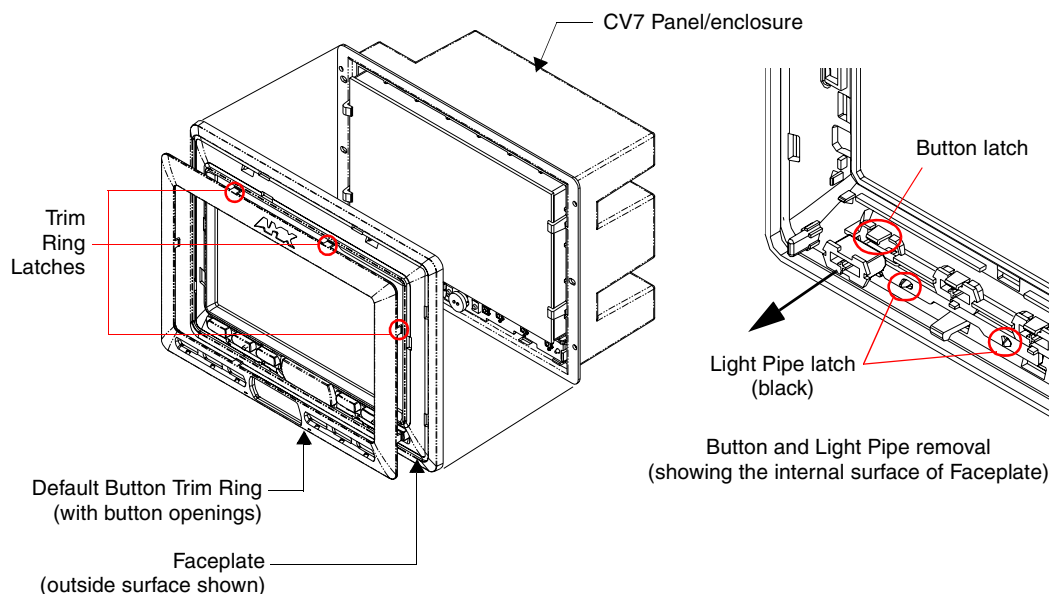

FIG. 32 Removing the default Button Trim Ring
2. Turn the Faceplate over to expose the inside surface and view the Trim Ring latches (FIG. 32).
4. Gently tug along the edges of the Button Trim Ring and work your way around the edges to remove it from the Faceplate (FIG. 32).